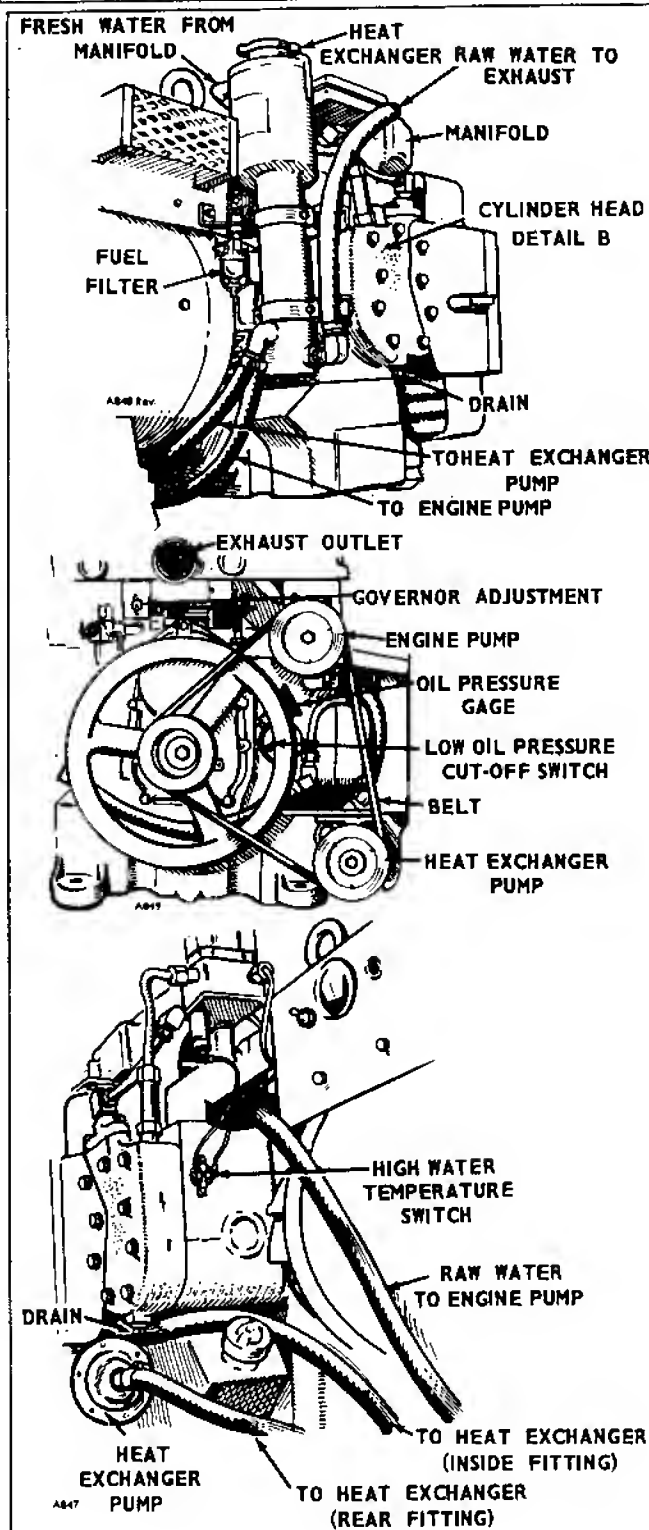

Figure 9. Cooling System Details
**Caution:** Do not use the existing neoprene impeller water pump in the hot water side of the cooling system. Heat or soluble oil (in many rust inhibitors and anti-freeze s) will damage the impeller. Instead, connect the neoprene impeller pump on the cold water side. Use a metal impeller, centrifugal-type water pump (Oberdorfer 1-GP, or equal) in the fresh water side. Drive it with a belt from the plant power take-off (see Fig.9).